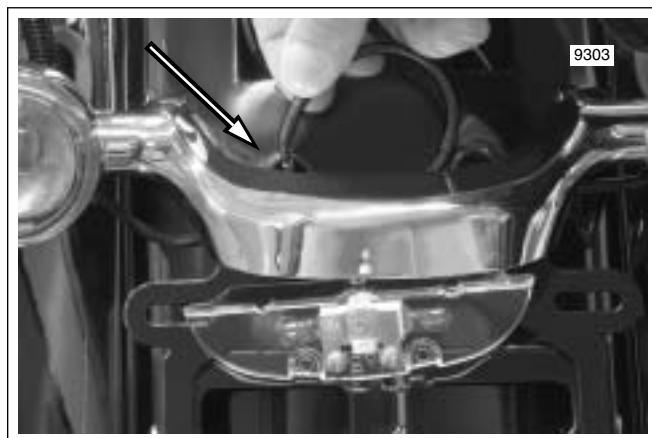

Figure 8-68. Draw Wires Through Fender Hole
6. Draw conduit and socket terminals through hole to out-board side of fender, and then down through slot in center of turn signal lamps bracket. See Figure 8-68.
3. Feed socket terminals and conduit up through slot in center of turn signal lamps bracket, and then through hole to inboard side of fender. See Figure 8-68.
4. Draw socket terminals through hole to outboard side of fender. See Figure 8-68.
5. Feed socket terminals of license plate lamp connector [45] through left side hole to inboard side of fender. See Figure 8-68.